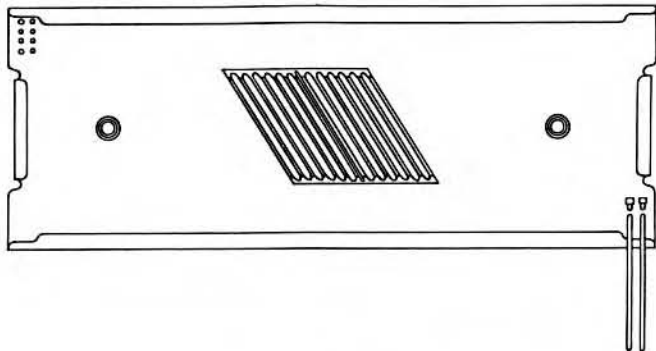

Figure 37
19.05 Place cable ties through the holes at the entry point. A double hole arrangement has been provided which will enable two tie wraps per buffer tube for better stability. Figure 37.